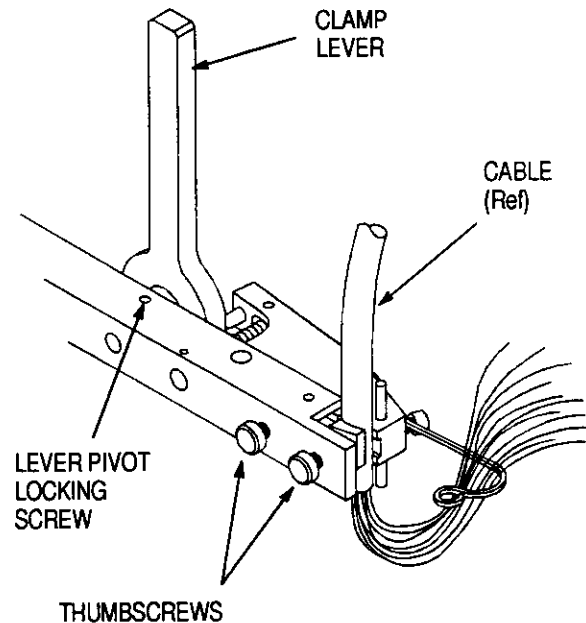

Figure 5
A. Fine Adjustment on a Specific Cable Diameter (Figure 5)
B. Coarse Adjustment for Changes in Cable Outside Diameter (Figures 5 and 6)